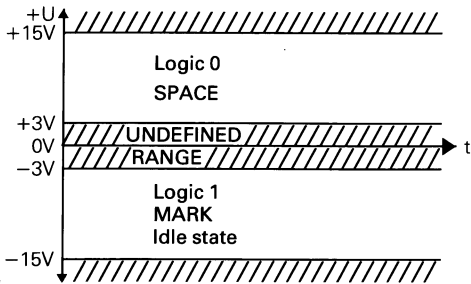

Fig. 3: Logic definitions for data lines.
- *positive*, then the signal state is logic 0, also referred to as SPACE (spacing condition) (see Fig. 3).